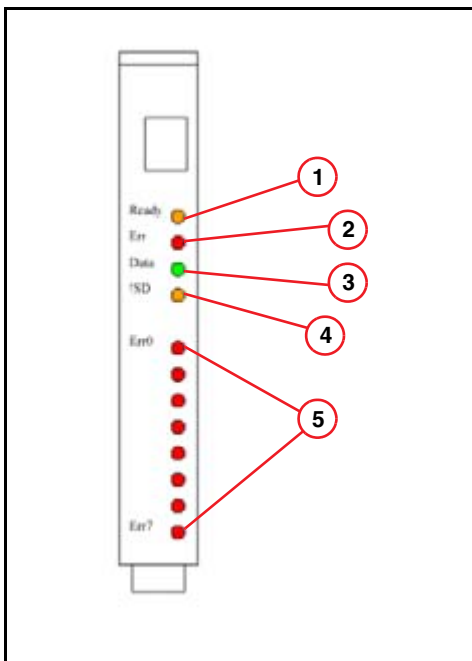

Fig. 13: Receiver board, F-Rec D23
- The yellow LED **Ready** (1/Fig. 13 / p. 38) indicates that the driver is loaded and the board is in the Ready status, typically after a mode is loaded. If the local firmware is properly loaded, the LED flashes during standby.
- The red LED **Err** (2/Fig. 13 / p. 38) indicates that a transmission error has occurred.
- The green LED **Data** (3/Fig. 13 / p. 38) indicates that block data are being received.
- The yellow LED **NoSignal** (4/Fig. 13 / p. 38) indicates that no optical signal is available. In this case, check the optical connection between the receiver board and gantry.
- The red LED's **Err0** to **Err7** (5/Fig. 13 / p. 38) display the output of an 8-bit error counter. The counter is incremented via hardware with each error detected, and cleared at the beginning of a scan.